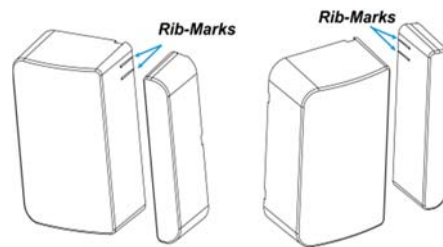

FIG. 1
- The rib marks on the magnet and Door Contact must align (**FIG. 1**).